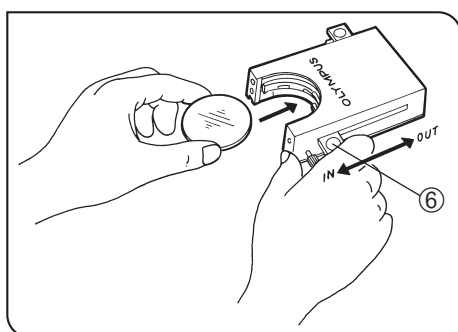

Fig. 17
Using the Filter Cassette (Figs. 17 to 20)
2. Slide the lever ⑥ to the IN position. Make sure that it clicks securely into place. (Fig. 17)
3. Holding the lever in the position shown in Fig. 17, put the filter into the cassette by inserting it in the direction indicated by the arrow.